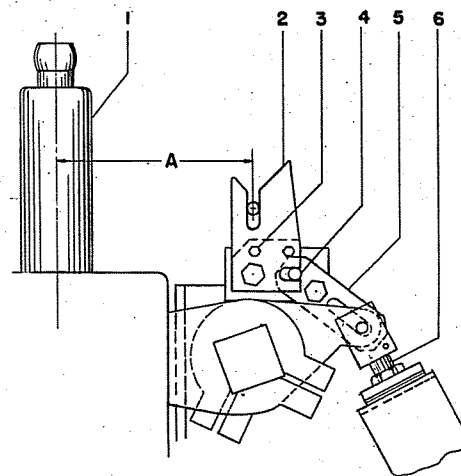

Figure 12 (006291393) Auxiliary Switch Linkage
Refer to Figure 12. With the breaker in the open position, the distance from the center line of the front bushings (1) to the center of the slot in the fork lever (2) should be 12-9/32" as shown. To change this setting, loosen the locking bolts (3) and move the fork lever in the proper direction. Tighten the lock bolts.